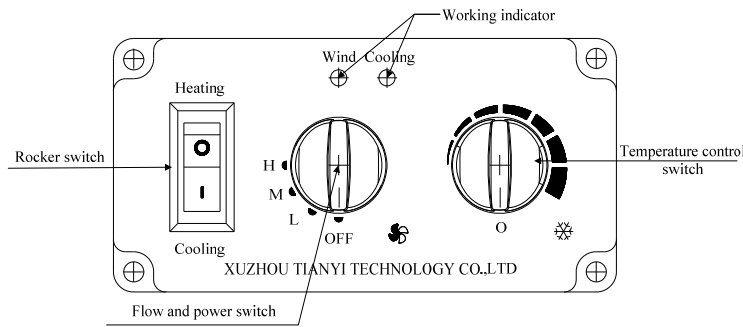

Figure 4
(1) Introduction of panel (Refer to Figure 4)